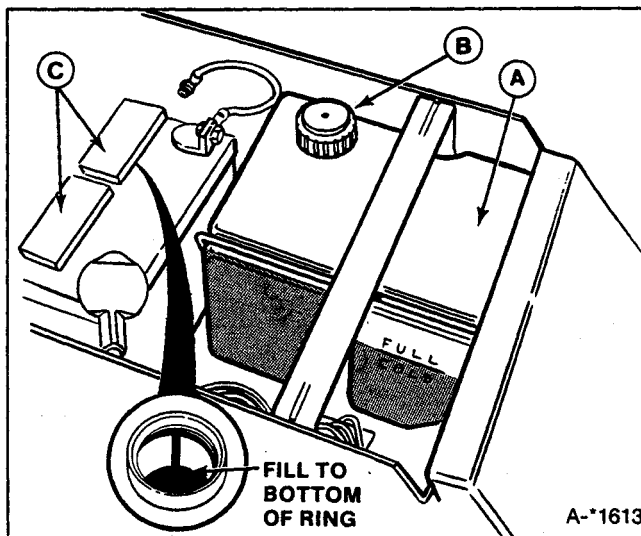

Figure 17. Fluid Level & Battery Check
- b. Inspect the fluid level in the reservoir (A, figure 17). Fluid should be even with the "FULL" mark when tractor is cool.
- c. Wipe any dirt or debris around filler cap (B) before removing cap. Add SAE 30W premium grade non-detergent oil as necessary.
- b. Remove the filler caps (C), one at a time.
- c. Fluid must be even with split ring full mark (figure 17). If not, add distilled water.